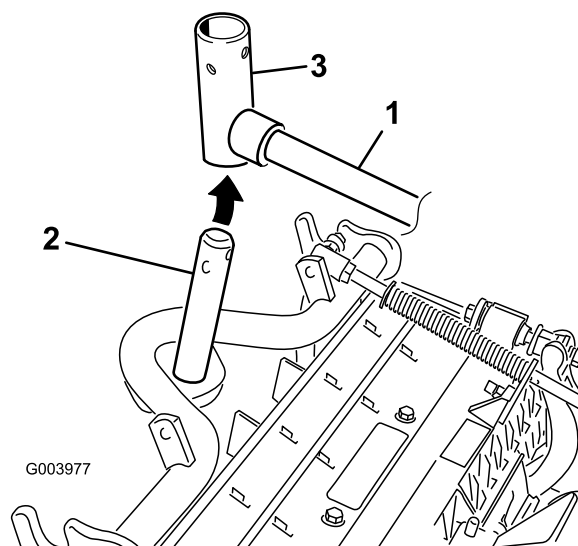

Figure 7
7. For the front cutting units, slide a cutting unit under the lift arm while inserting the carrier-frame shaft up into the lift-arm-pivot yoke (Figure 7).
- B. Insert the lift-arm yoke onto the carrier-frame shaft (Figure 7).